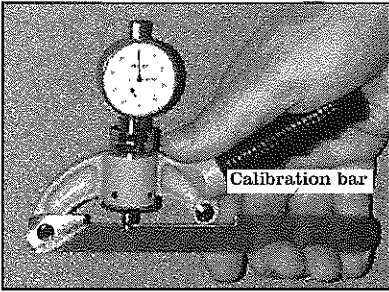

Fig. 29
2. Hook the calibration bar (Fig. 29) over the upper pin and make sure the pin is at the top center of the calibration bar hole.